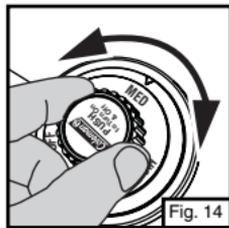

Fig. 14
- Adjust flame with regulator valve. (Fig. 14)